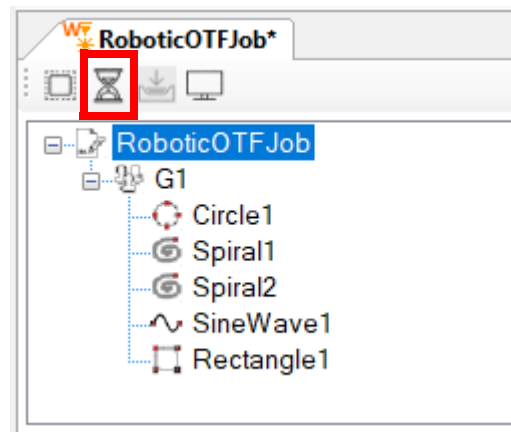

Figure 263: Advanced Timeline Button
2. Click the "Time Line" button at the Top of the Job Tree. See Figure 263 (below).